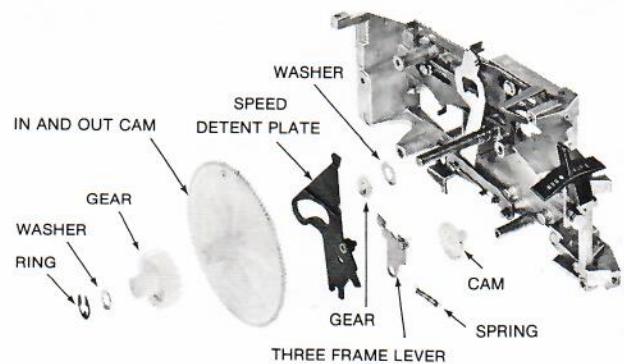

FIGURE 27
6. Remove the SPEED DETENT PLATE, and the THREE FRAME LEVER ASSEMBLY, Figure 27.
7. Remove the THREE-FRAME GEAR AND CAM, Figure 27.